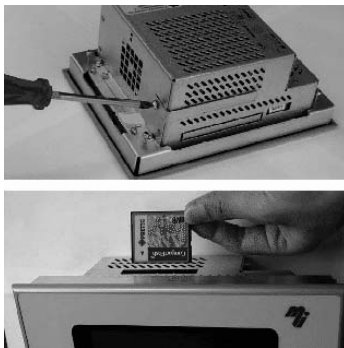

Fig. B-5
3. Unscrew the cover (Fig. B-5)